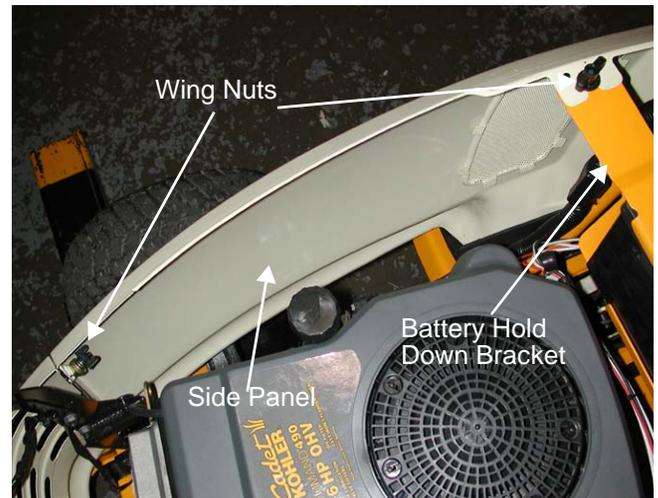

Figure 37.1
37.1. Loosen the plastic wing nuts securing the side panels to the battery hold down bracket and the grille assembly. See Figure 37.1.